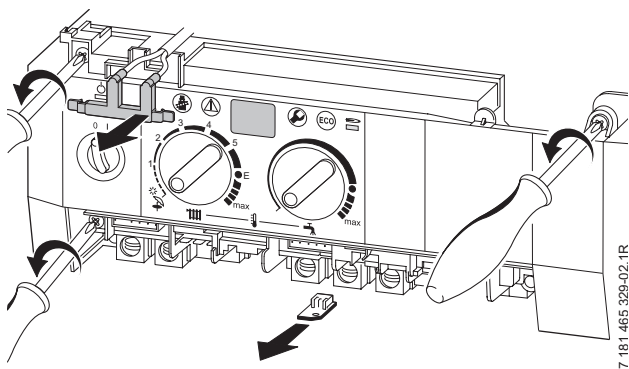

Fig. 58
- ▶ Remove two top fixing screws from the control box. Refer to fig. 58.